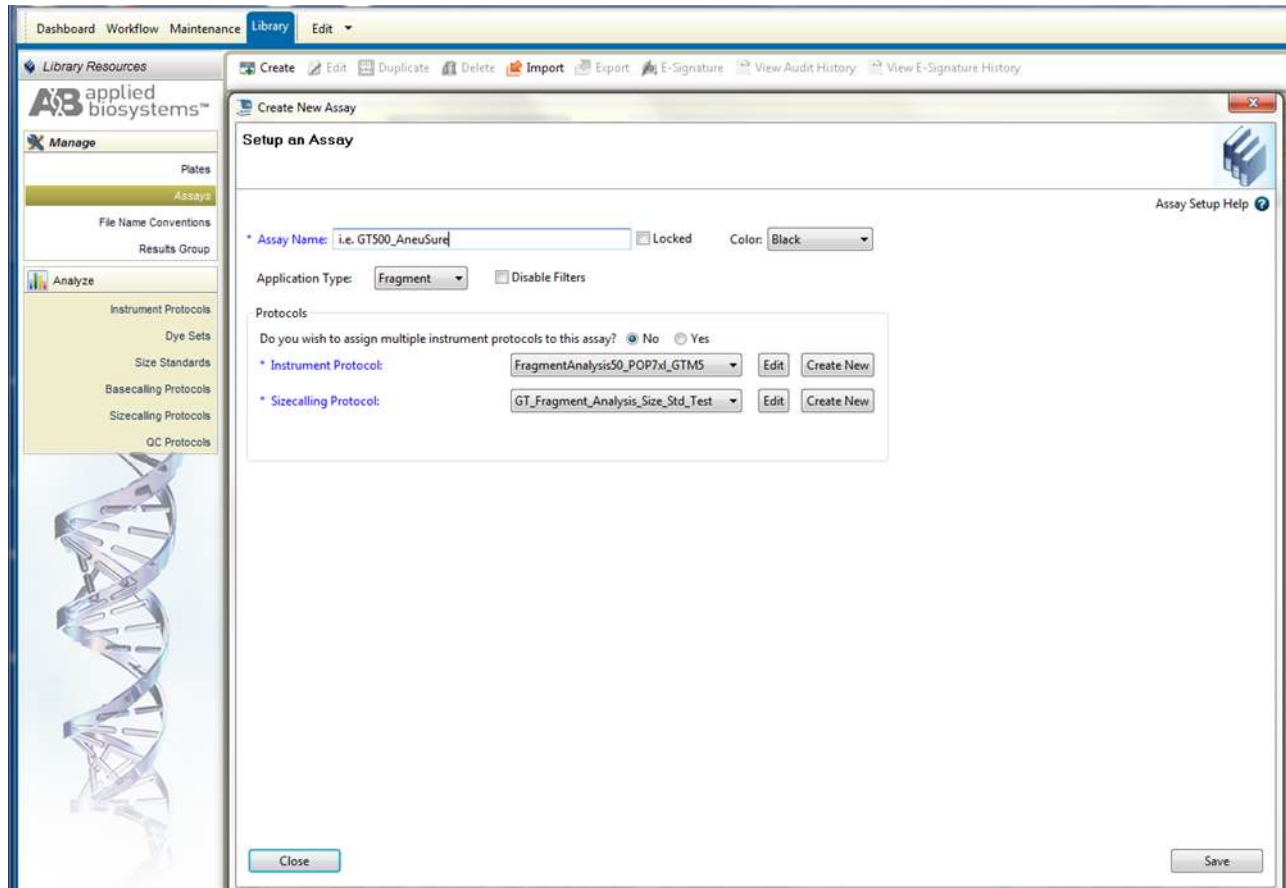

Figure 8. Screenshot for the “Create New Assay” window on Applied Biosystems® 3500 Data Collection software
- c) Select “Create” (Figure 8)
- d) In the *Create New Assay* window, as shown in Figure 8, choose the *Instrument Protocol* created in Step 3.1.1 and the *QC Protocol* created in Step 3.1.3